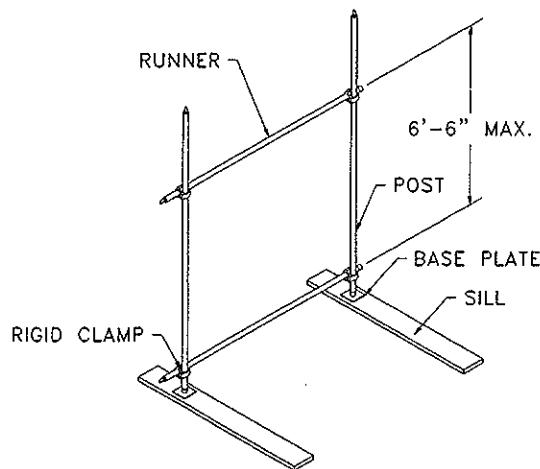

FIGURE 1
1. Determine the desired spacing for posts according to the intended loading from Tables T-1 and T-2. Properly secure bases to sills corresponding to the spacing of the posts. Insert two (2) posts in line in the direction of the length of the scaffold into bases and secure posts into bases. With the posts set at the proper span, attach the bottom runner with rigid clamps as close to the base as possible. Attach the next consecutive runner at the desired height, but not more than 6'6" on center. See Figure 1